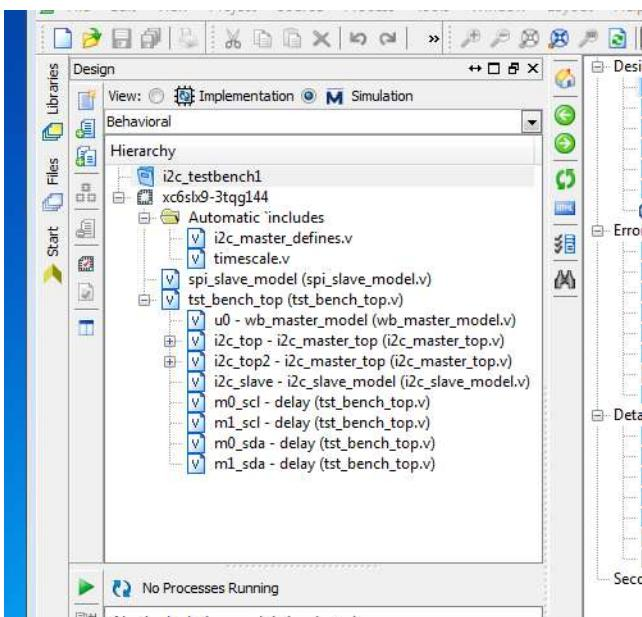

Figure 4-11 Test bench hierarchy
4. Switch to Simulation view and you should see the updated hierarchy with the test bench files (Figure 4-11). Notice that `tst_bench_top` is now the top level.